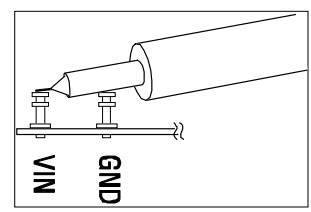

Figure 2. Measuring Input or Output Ripple
NOTE: When measuring the input or output voltage ripple, care must be taken to avoid a long ground lead on the oscilloscope probe. Measure the input or output voltage ripple by touching the probe tip directly across the  $V_{in}$  or  $V_{out}$  and GND terminals. See the proper scope probe technique in figure 2.
5. Set the load current of both outputs to 3A and the input voltage to 5.5V, and then measure each output ripple voltage (refer to figure 2 for proper measurement technique); they should each measure less than 30 mVAC. Also, observe the voltage waveform at either switch node of each regulator. The switching frequencies should be between 1.85 MHz and 2.65 MHz ( $T = 540$  ns and 374 ns). In all cases, both switch node waveforms should be rectangular in shape, and 180° out-of-phase with each other. Change the shunt position on header J5 to set the switch waveforms in phase with respect to each other. To operate the ckt.s in Burst Mode™ or pulse-skip mode, change the shunt in header J7. When finished, insert shunts XJ1 and XJ2 to the OFF position(s) and disconnect the power.